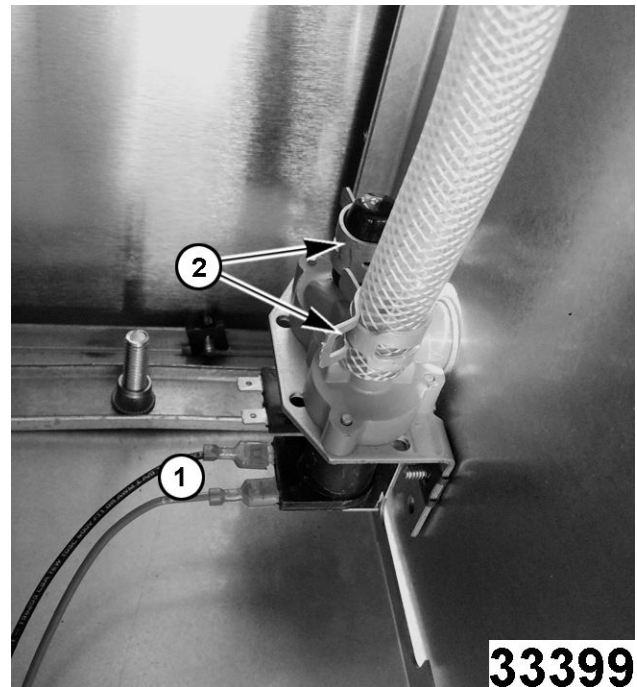

Fig. 51
4. Disconnect hose and cap clamps (2, Fig. 51) from outlet ports.
3. Note and disconnect wires (1, Fig. 51).